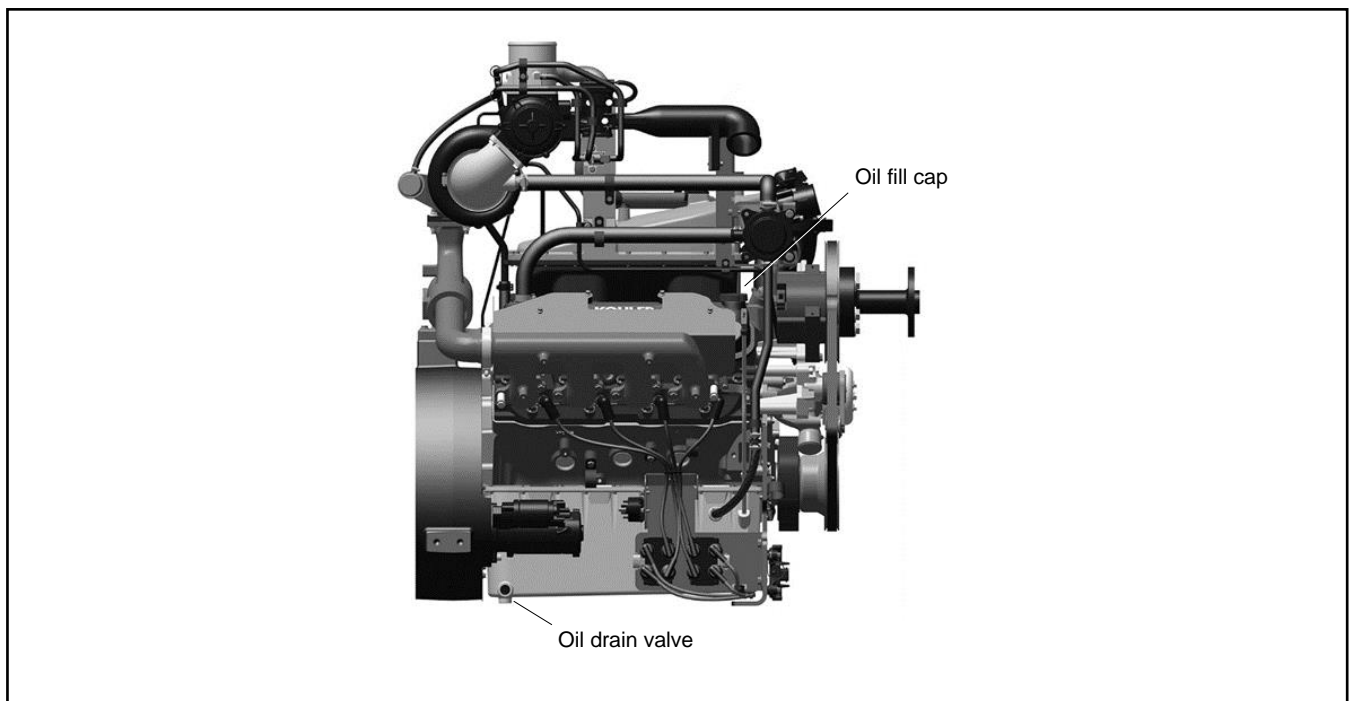

Figure 19 Oil Fill and Drain Valve Location
2. Place a drop cloth and collection container beneath the oil drain valve. See Figure 19.